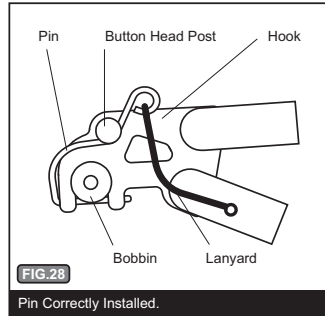

FIG. 28
**F)** With the trailer hooks placed on the bobbins, insert the pin in the hole in the front edge of the hook. Slide the pin under the bobbin and into the hole in the back edge of the hook. Rotate the pin up, toward the button head post on the hook. To secure the pin, it is necessary to press it downward and toward the hook. When properly installed, the pin fits between the hook and the head on the button head post, as shown in Fig. 28. The rubber lanyard retains the pin when not installed.